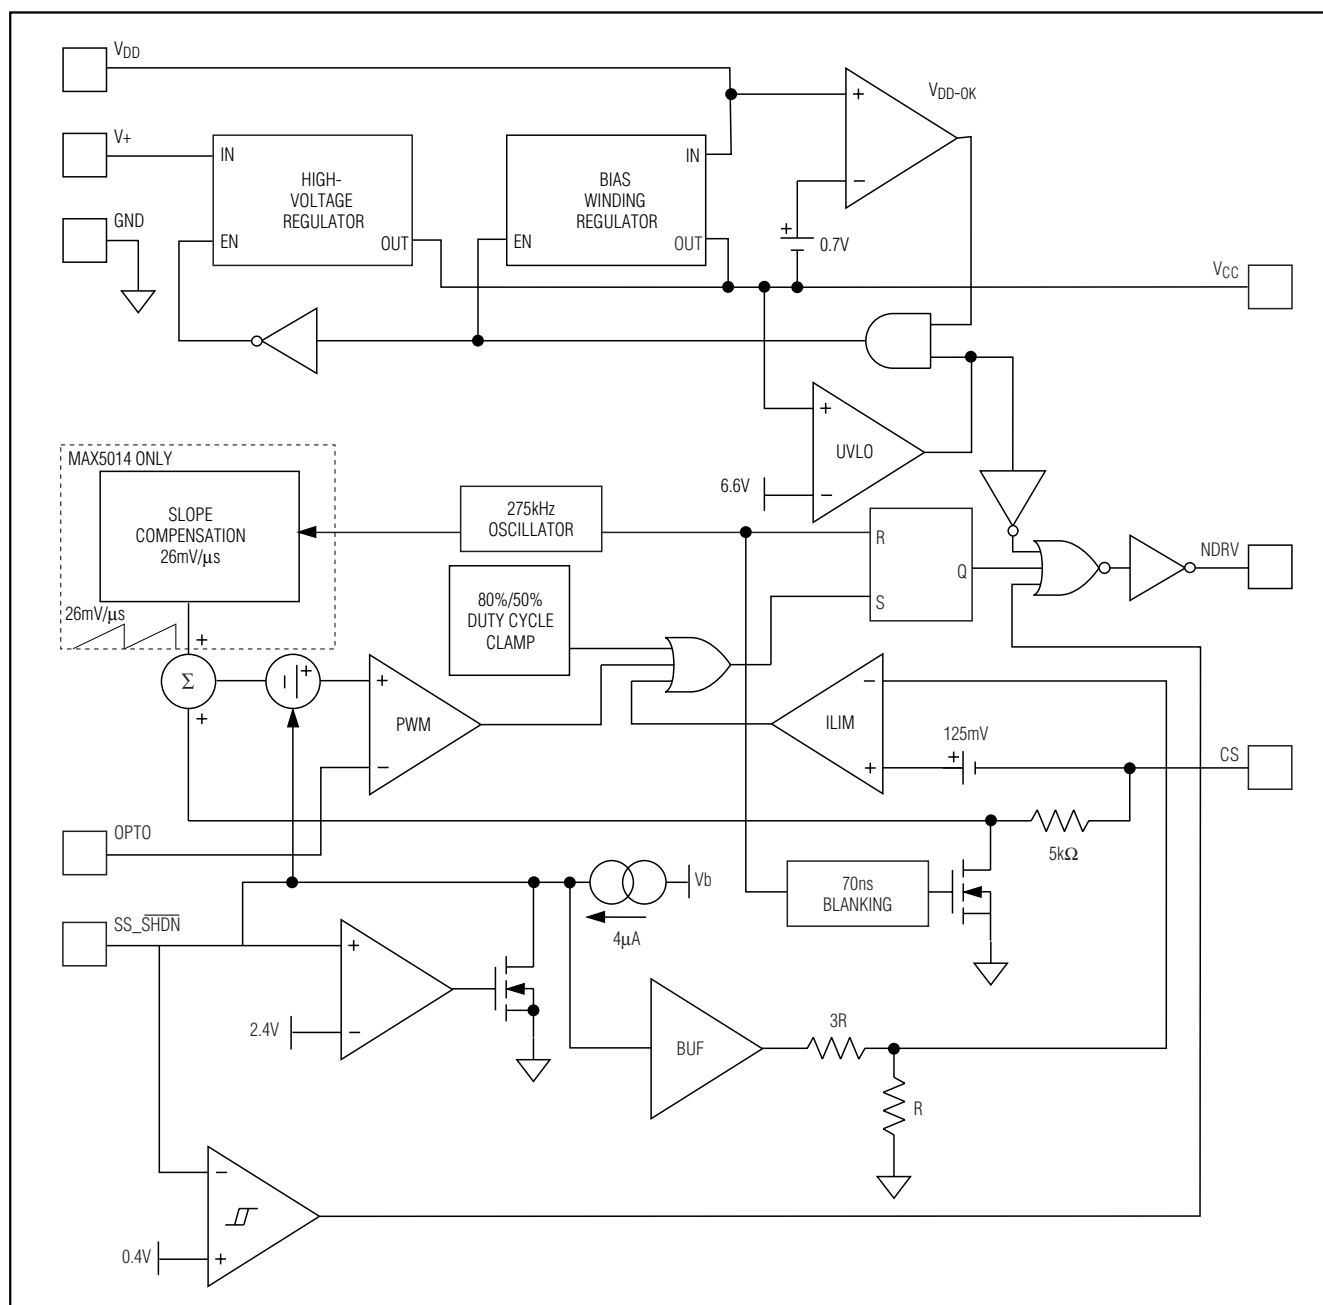
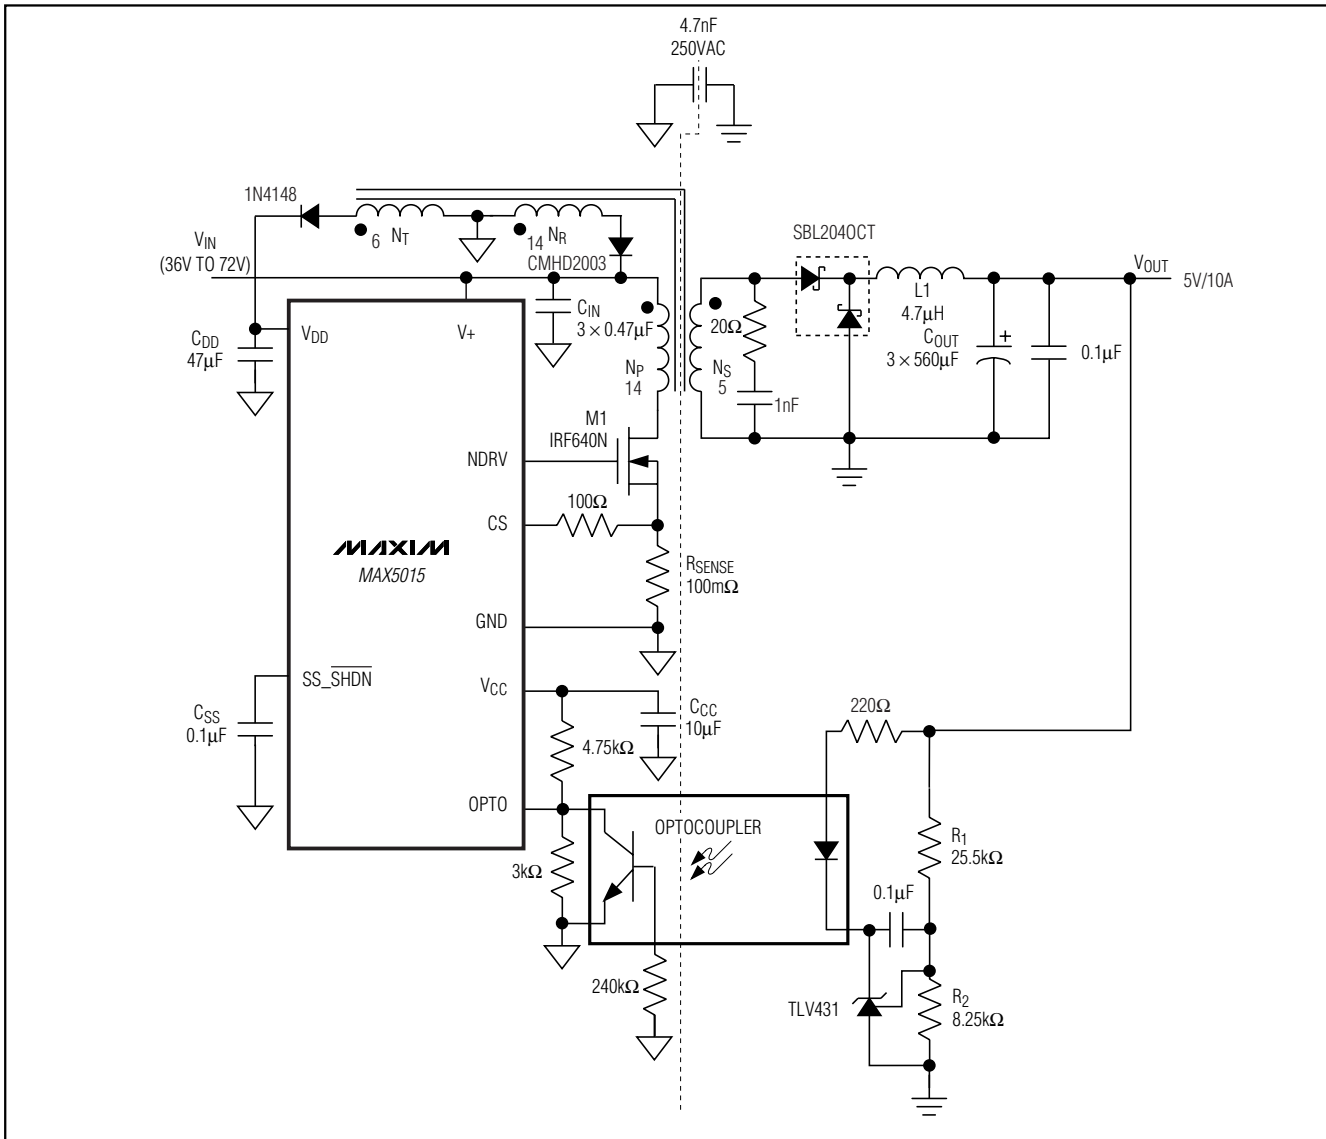

Figure 1. Functional Diagram
Figure 2. Forward Converter
Use the MAX5014/MAX5015 PWM current-mode controllers to design flyback- or forward-mode power supplies. Current-mode operation simplifies control-loop design while enhancing loop stability. An internal high-voltage startup regulator allows the device to connect directly to the input supply without an external startup resistor. Current from the internal regulator starts the controller. Once the tertiary winding voltage is established the internal regulator is switched off and bias current for running the IC is derived from the tertiary winding. The internal oscillator is set to 275kHz and trimmed to ±10%. This permits the use of small magnetic components to minimize board space. Both the MAX5014 and MAX5015 can be used in power supplies providing multiple output voltages. A functional diagram of the IC is shown in Figure 1. Typical applications circuits for forward and flyback topologies are shown in Figure 2 and Figure 3, respectively.
Isolated voltage feedback is achieved by using an optocoupler and a shunt regulator as shown in Figure 2. The output voltage set point accuracy is a function of the accuracy of the shunt regulator and feedback resistor-divider tolerance.
where C_{SS} is the soft-start capacitor as shown in Figure 2.
The current-sense (CS) comparator and its associated logic limit the peak current through the MOSFET. Current is sensed at CS as a voltage across a sense resistor between the source of the MOSFET and GND. To reduce switching noise, connect CS to the external MOSFET source through a 100Ω resistor or an RC low-pass filter (Figures 2, 3). Select the current-sense resistor, R_{SENSE} according to the following equation:
The following is a general procedure for designing a forward converter (Figure 2) using the MAX5015.
The circuit in Figure 2 was designed as follows:
where V_{REF} is the reference voltage of the shunt regulator, and R_1 and R_2 are the resistors shown in Figures 2 and 3.